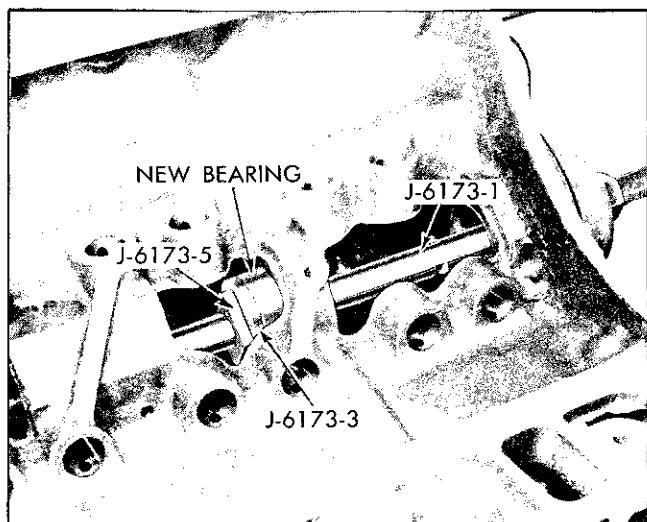

Fig. 6-99 Installing Camshaft Bearing
5. Position replace adapter J 6173-3, with bearing in position against shoulder, against rear of hole in which bearing is to be installed (Fig. 6-99). Index mark on shoulder of replacer must point down (toward crankshaft side) to properly position bearing.
7. Slip key J 6173-5 into notches in shaft behind replacer adapter J 6173-3 and tighten nut to start bearing into hole (Fig. 6-99). Continue to tighten nut until bearing has been pulled completely into its hole. When properly positioned, it will be approximately flush with both sides of the transverse member.